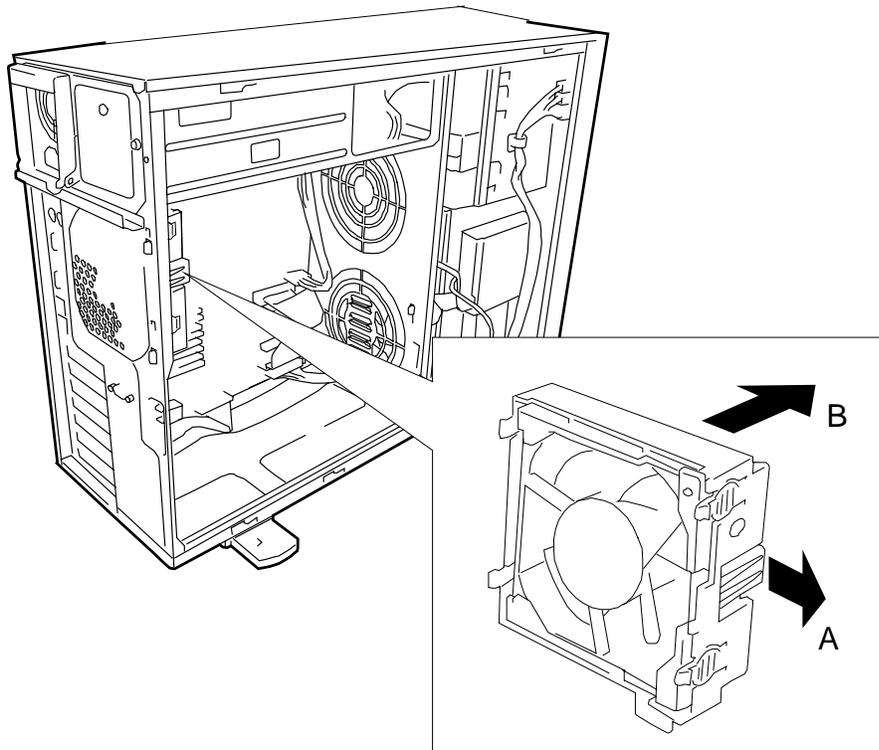

Figure 4-54. Removing the Rear Cooling Fan
- 10.** To release the fan from the fan housing, pull the fan housing tab (Figure 4-54, A) towards you until the tab clears the edge of the fan. Swivel the fan towards the front of the server and remove it from the fan housing.